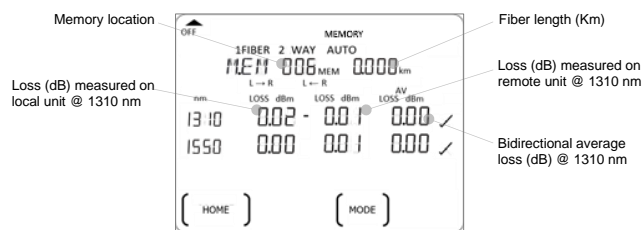
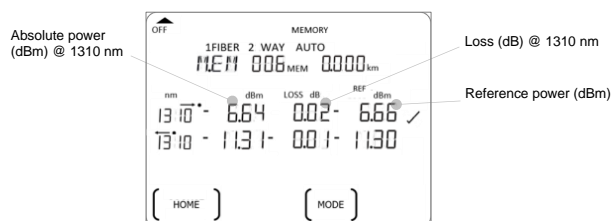
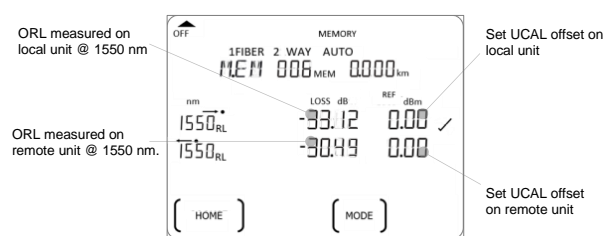

Figure 4. Memory display of Two-Way Autotest (Test summary)
Figure 5. Memory display of Two-Way Autotest (Test detail)
Figure 6. Memory display of Two-Way Autotest (ORL test)
- [For data saved in 2-way Autotest mode only]: As default, a test summary for losses at each direction and their averages is displayed (see Figure 4 at the end of this section for an LCD display sample). To change to display test detail for absolute power, loss, reference power of each direction, (see Figure 5 for an LCD display sample) press **F3**. Press **F3** again to display optional ORL values (see Figure 6 for an LCD display sample). Press **F3** again now will return to default display.